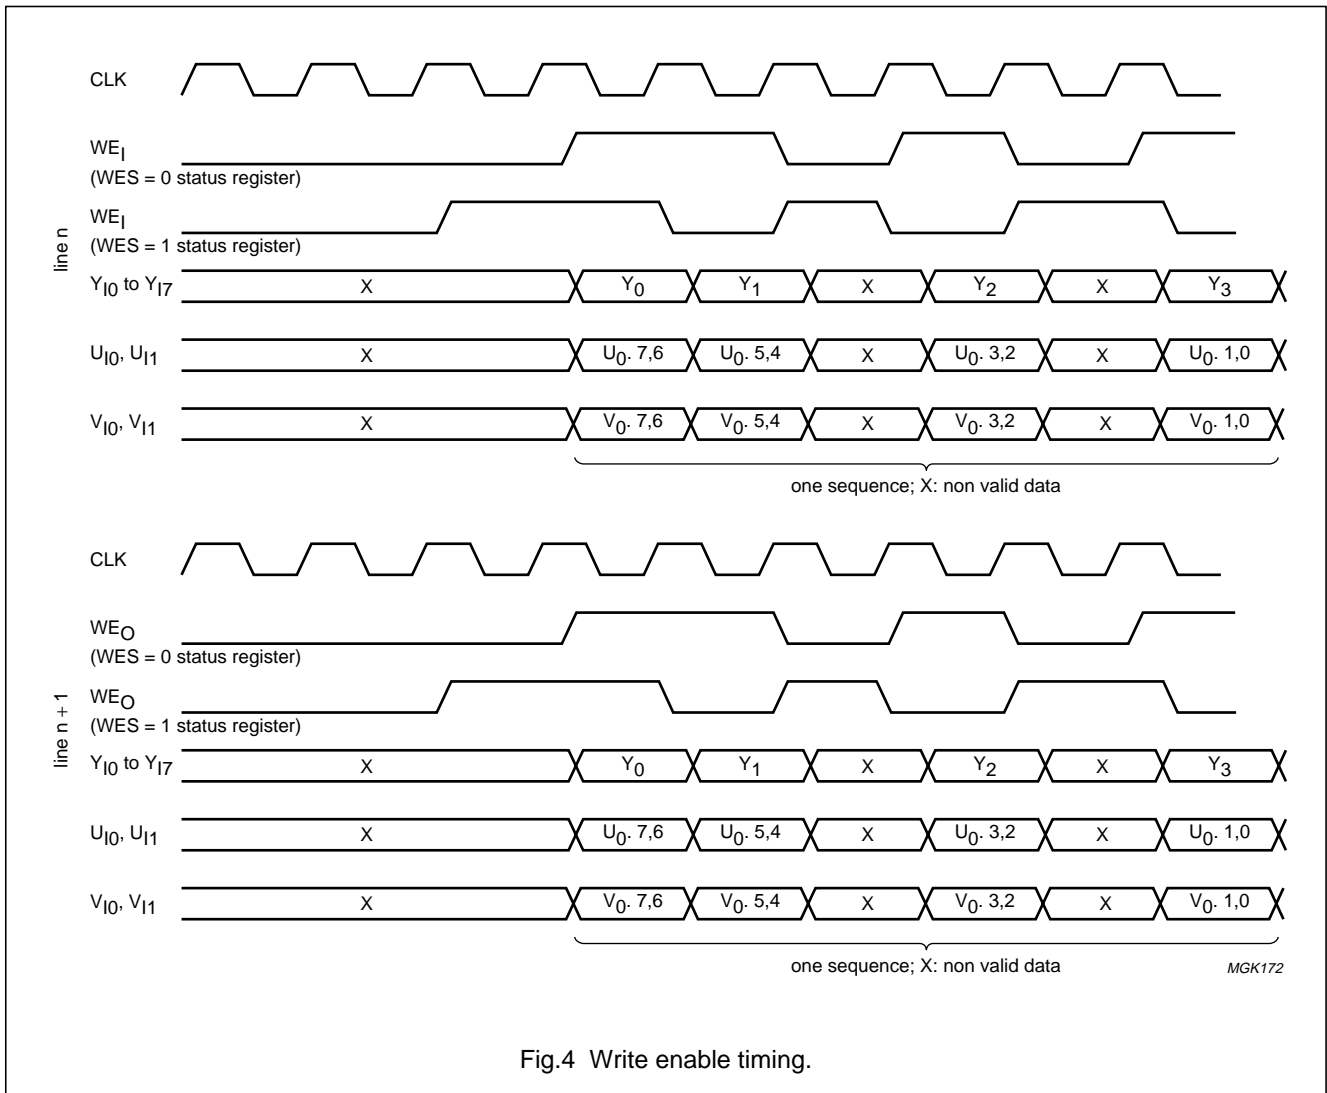

Fig.4 Write enable timing.
- Timing relation (see Fig.4) depending on the logic level of the **Write Enable Select** signal (WES) in status register; to adapt to different external video memories
- The number of input samples is a multiple of 4 (see Fig.4)
- Start of new line indicated by write enable signal LOW for at least 4 consecutive clock periods (see Fig.4)